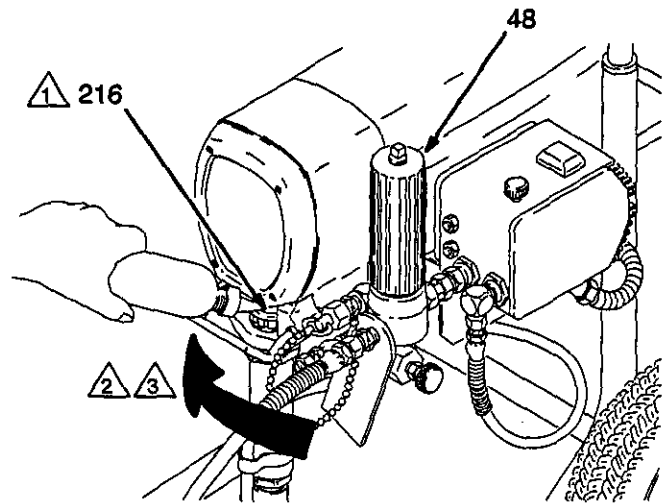
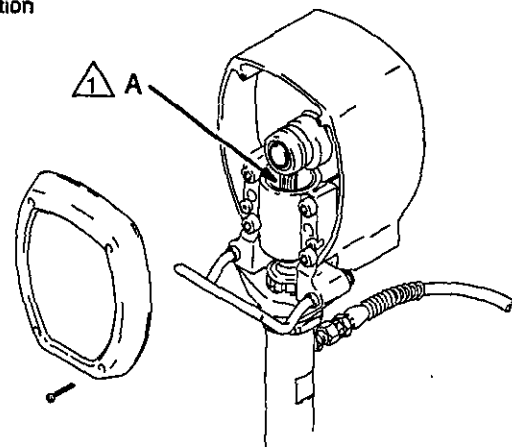

Fig. 8
Fig. 9
1. Check the packing nut/wet-cup (216) daily. First follow the **Pressure Relief Procedure Warning** on page 11. Be sure the wet-cup is 1/3 full of TSL at all times to help prevent fluid buildup on the piston rod and premature wear of packings. The packing nut should be tight enough to stop leakage, but no tighter. Over tightening may cause binding and excessive packing wear. Use a round punch or brass rod and light hammer to adjust the nut. See Fig. 8.
2. Clean the fluid filter (48) often and whenever the sprayer is stored. First follow the **Pressure Relief Procedure Warning** on page 11. Refer to manual 307-273, supplied, for the cleaning procedure.
3. Lubricate the bearing housing after every 100 hours of operation. Fill the connecting rod cavity (A) with SAE No. 10 non-detergent oil. See Fig. 9.